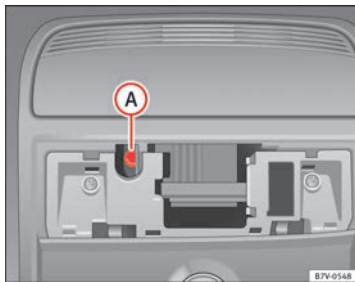

Fig. 196 Allen bolt to close the panoramic sliding roof.
- Insert a standard 4 mm Allen key1) into the Allen bolt ⇒ fig. 196 (A).